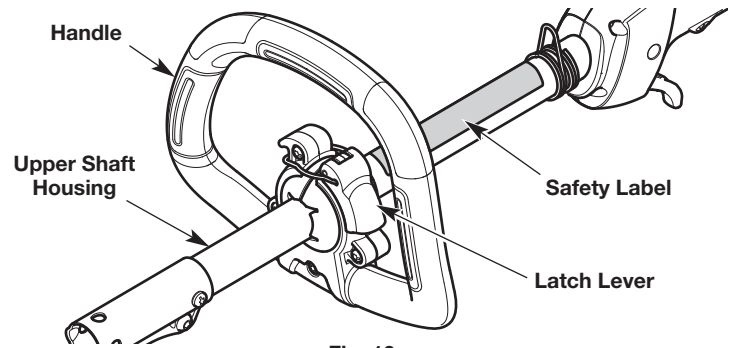

Fig. 10
7. Hold the unit in the operating position (Fig. 18). Move the handle up or down the upper shaft housing to a comfortable location (Fig. 10). Make sure the handle is positioned beyond the end of the safety label (Fig. 10).
1. Flip the latch lever up to loosen the handle (Fig. 10).
2. Hold the unit in the operating position (Fig. 18). Move the handle up or down the upper shaft housing to a comfortable location (Fig. 10). Make sure the handle is positioned beyond the end of the safety label (Fig. 10).